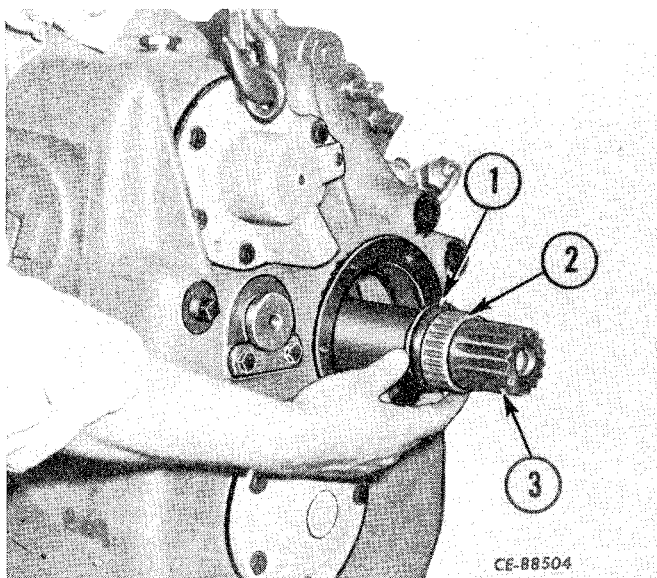

Figure 4-91
Place the thrust washer assembly (1, Fig. 4-91) and the inner roller bearing (2) on the countershaft (3).